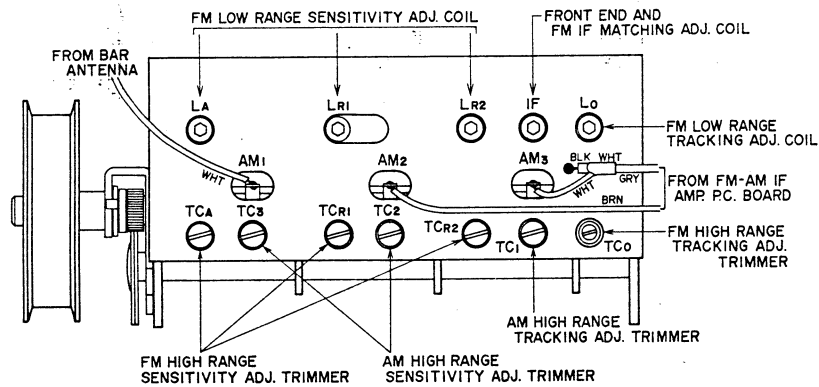

Fig. 18
- 4) Adjust Core Lo of Front End (Fig. 18) until the distortion meter level is maximum and the distortion factor is minimum. (Refer to Chart 4)
- 6) Adjust trimmer condenser TCo of Front End (Fig. 18) until the distortion meter level is maximum and the distortion factor is minimum. (Refer to Chart 4)
- 5) Adjust the cores of Front End (Fig. 18) until the distortion meter level is maximum and the distortion factor is minimum. (Refer to Chart 5)
- 8) Adjust Trimmer Condensers of Front End (Fig. 18) until the distortion meter level is maximum and the distortion factor is minimum. (Refer to Chart 5)
- 11) Adjust the upper and lower cores of IF Coil in Front End (Fig. 18) and the lower core of FM-AM IF P.C. Board Discriminator Coil until the distortion meter level is maximum and the distortion factor is minimum. (Refer to Chart 5)
- 6) Adjust Front End Trimmer Condenser in Fig. 18 until the distortion meter level is maximum and the distortion factor is minimum. (Refer to Chart 7)
- 8) Adjust Front End trimmer condensers in Fig. 18 until the distortion meter level is maximum and the distortion factor is minimum. (Refer to Chart 8)